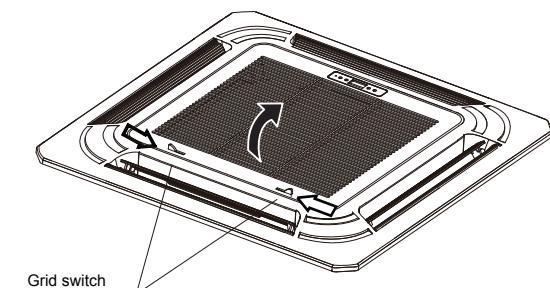

Figure 3.12
- (1) Press the two grille locks inwards in the direction indicated by the arrows at the same time to lift it up (Figure 3.12).